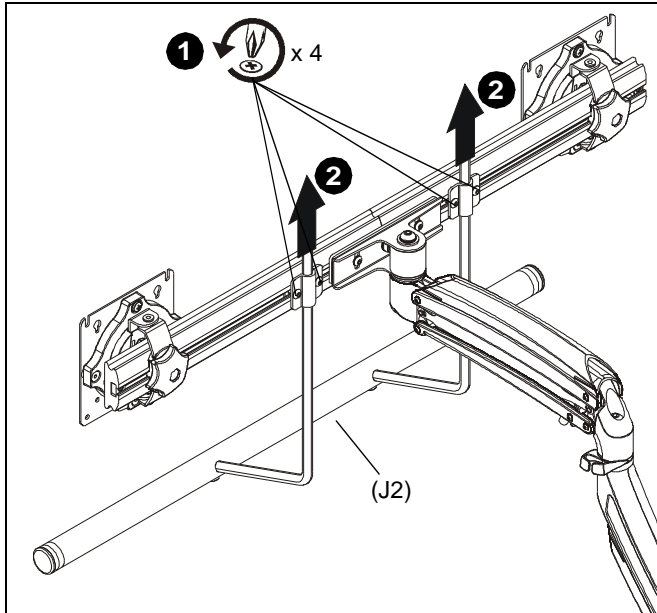

Figure 14
1. Loosen four screws securing handle brackets to K1D22H array. (See Figure 14)
2. Install uprights of handle (J2) into handle brackets located on the back of K1D22H array. (See Figure 14)